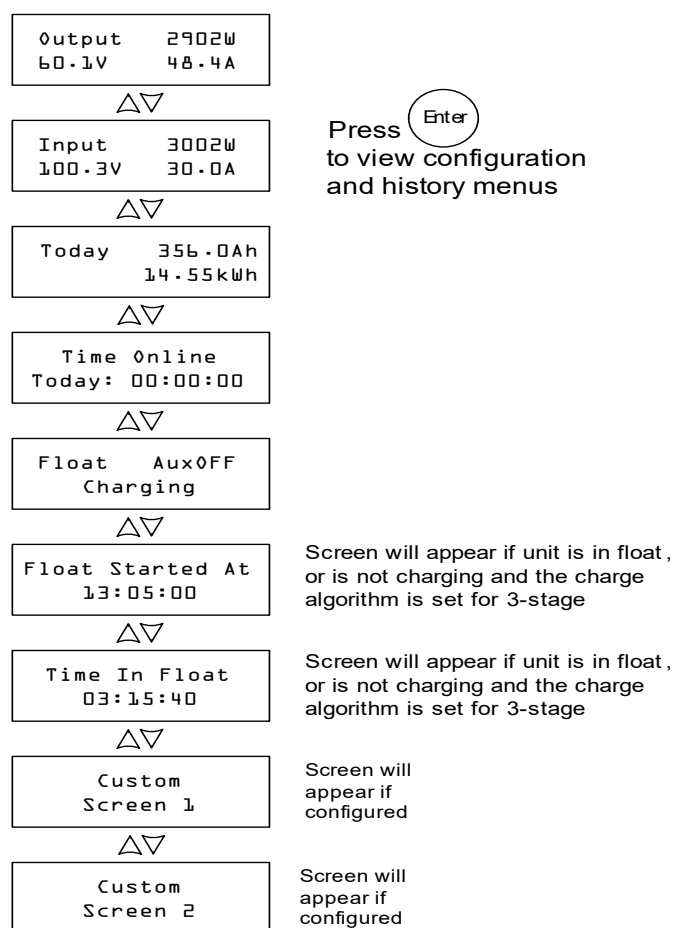

Figure 4-1 Operating Screens
- When in Charge Control mode the LCD shows the output power, voltage and current (and additional information as shown in Figure 4-1).
The front panel display shows different message screens during startup and normal operations. Figure 4-1 shows the sequence in which the Startup and Operating screens are displayed or can be viewed.